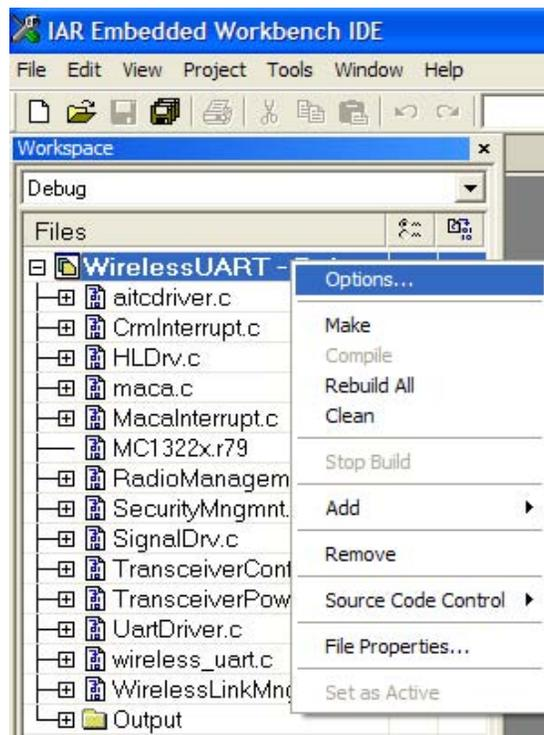

Figure 1-13. IAR Embedded Workbench Options Menu
- Right click on the project name and select “Options” as shown in Figure 1-13.